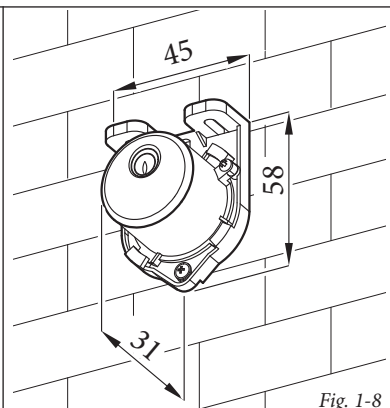

Fig. 1-8
• **External temperature probe (Fig. 1-8).** The probe can be connected directly to the boiler electrical system and allows the max. system flow temperature to be automatically decreased when the external temperature increases, in order to adjust the heat supplied to the system according to the change in external temperature. The external probe always operates when connected, regardless of the presence or type of heat adjuster used and can work in combination with both heat adjusters. The electric connection of the external probe must take place on clamps G and J on the X86 connection of the boiler. (Fig. 1-4).